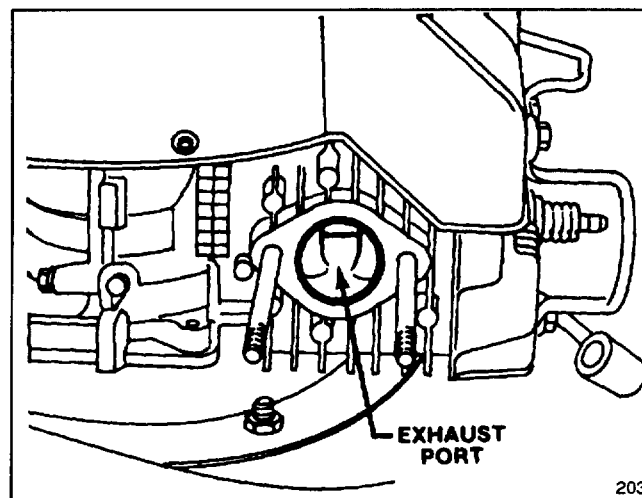

Figure 20
3. Pull wire off spark plug. Slowly pull recoil starter so piston covers exhaust port (Fig. 20).
4. Clean carbon from exhaust port (Fig. 20) with flat, hard wood scraper.
5. Reinstall muffler with screw, (2) nuts and lockwashers (Fig. 20). After cleaning exhaust port, make sure muffler gasket is still usable.